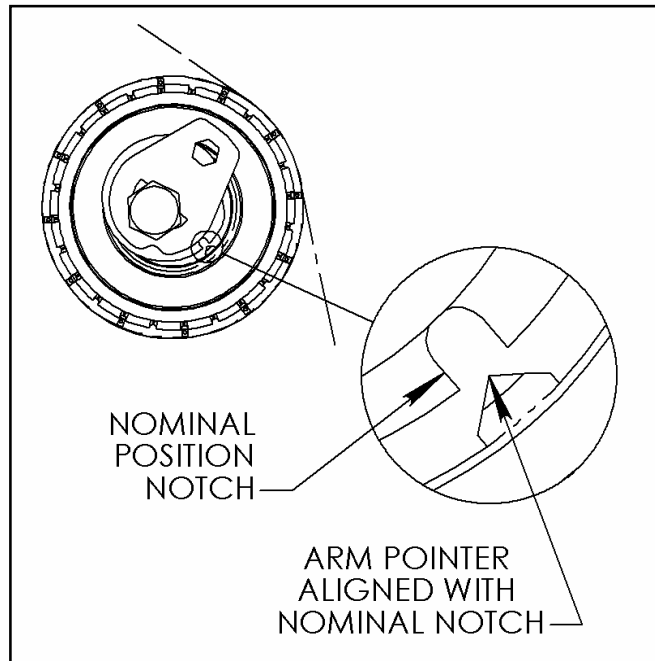

Figure 6: Tensioner Shown at Nominal Position
- If the Arm Pointer aligns with the Nominal Position Notch in the front plate, the installation is complete (Figure 6).